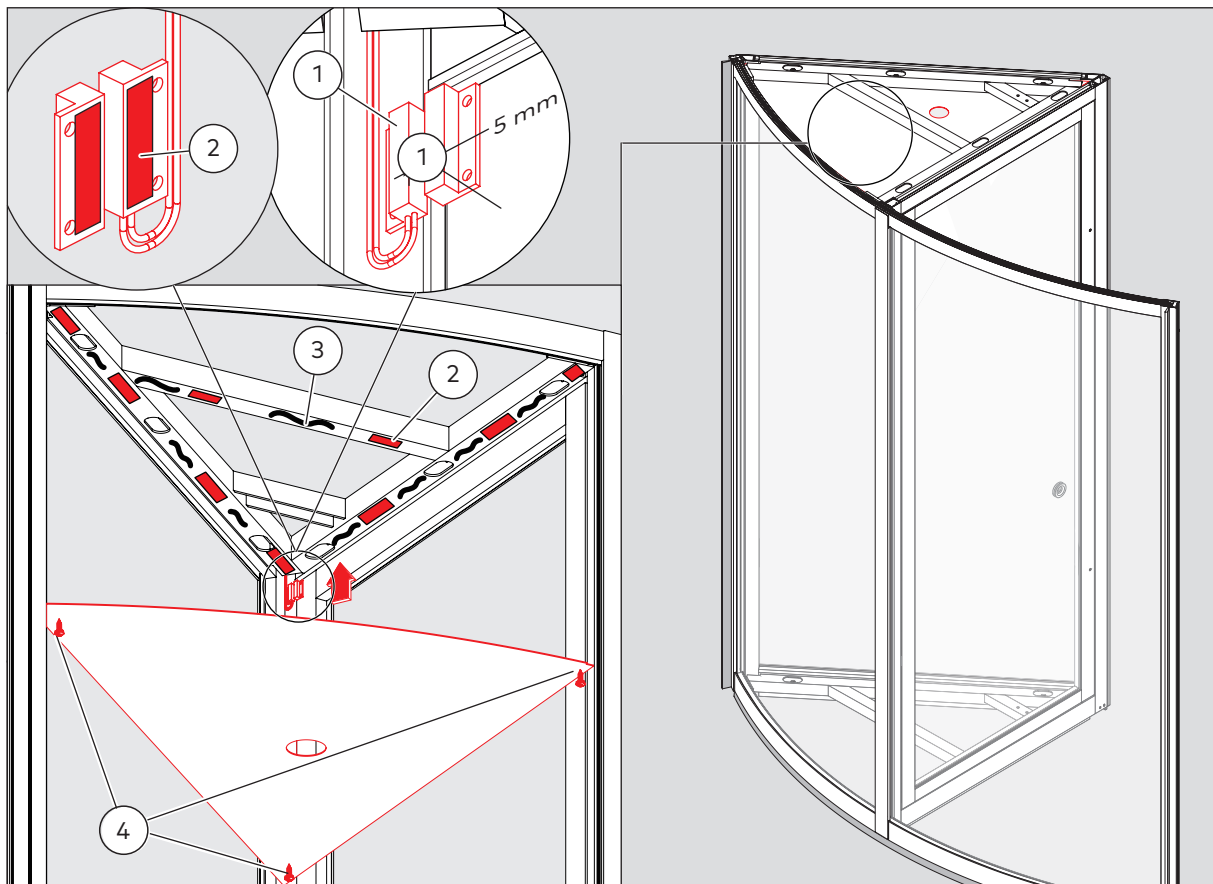

Fig. 77 Mounting the ceiling and the safety switch of the showcase door
4. Install the limit switch (Fig. 77/1) with adhesive tape (Fig. 77/2).
5. Mount the ceiling with adhesive tape (Fig. 77/2), silicone (Fig. 77/3) and 3 screws (Fig. 77/4).